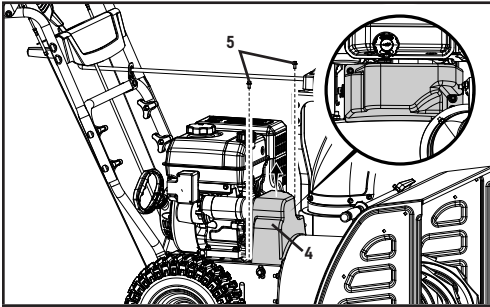

Figure 23
1. Remove the plastic belt cover (4) on the front of the engine by removing two M6 × 16 bolts (5) (Fig. 23).